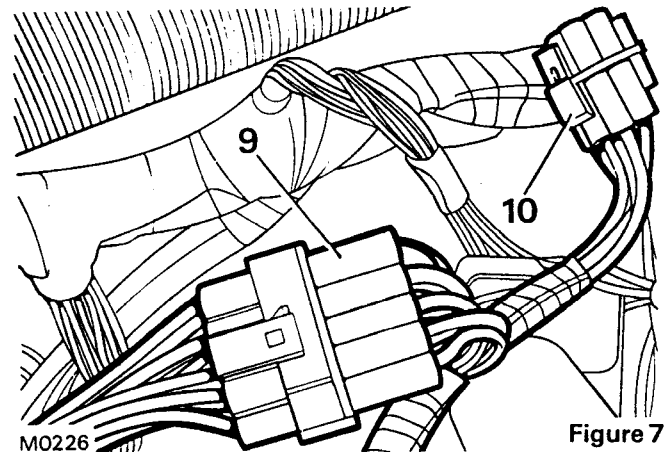

Figure 7
9. Disconnect multi-switch wiring plug, see Figure 7.